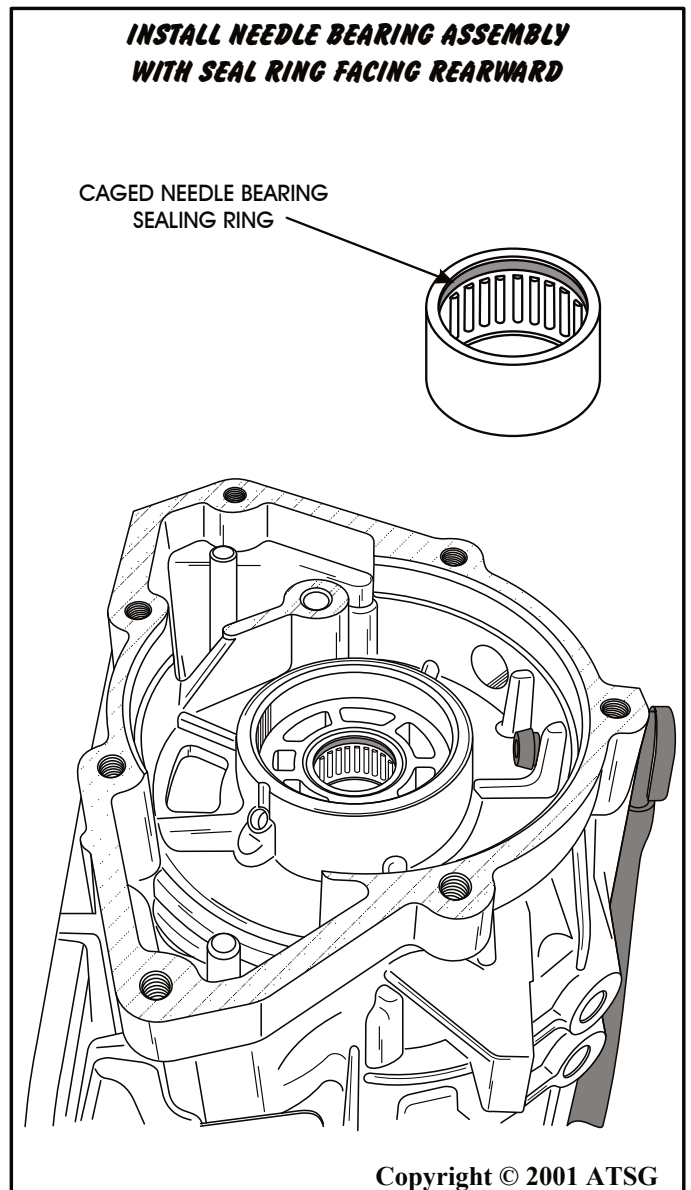

Figure 127
2. Inspect the rear case caged needle bearing and replace as necessary using the appropriate tools to remove and install (See Figure 127).
Note: *If replacement is necessary ensure that the sealing ring end of the bearing faces rear, as shown in Figure 127.*